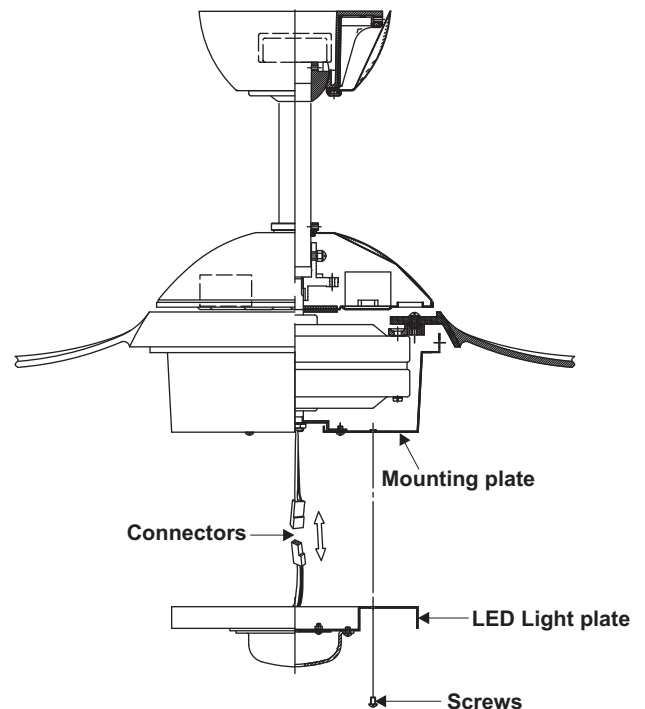

Figure 17
2. Raise and hold the LED light plate close to the mounting plate and proceed to do the wire connections. Make the 2-pin wire connections: (Fig. 17)
3. Place the key holes from the LED light plate over the 2 screws previously loosened from the mounting plate, turn the LED light plate until it locks in place at the narrow section of the key holes. Secure by tightening the 2 screws previously loosened and the one previously removed. (Fig. 17)